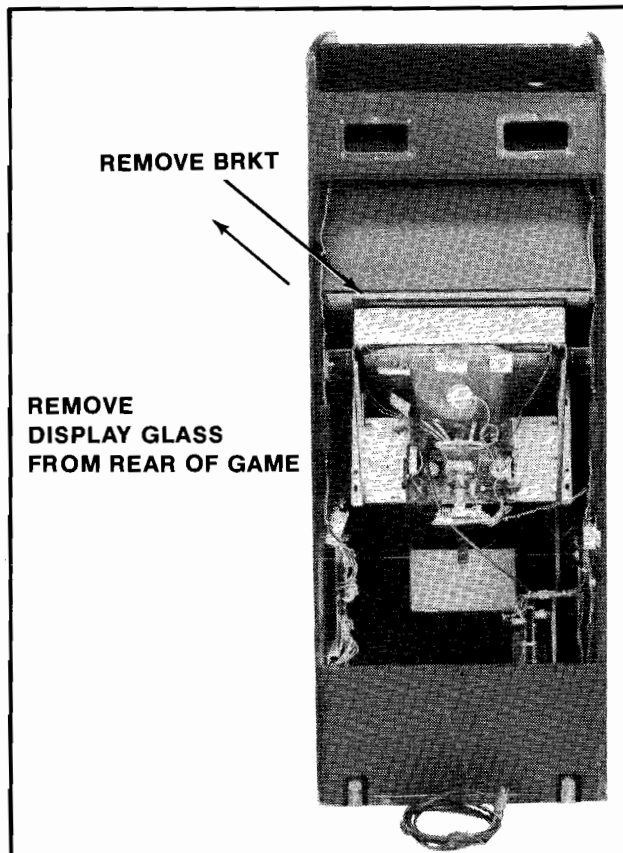

Figure 12 Removing display glass—Upright game
1. UPRIGHT MODEL: See Figure 12.